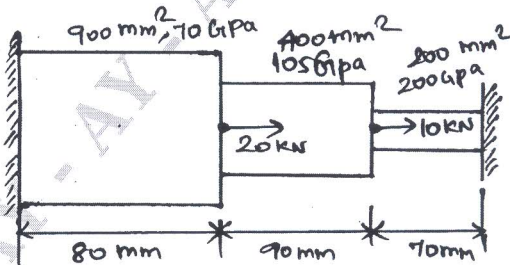

Fig Q3(b)
- b. Find nodal displacements, stress in the thickest section and left support reaction for structure shown in Fig Q3(b)